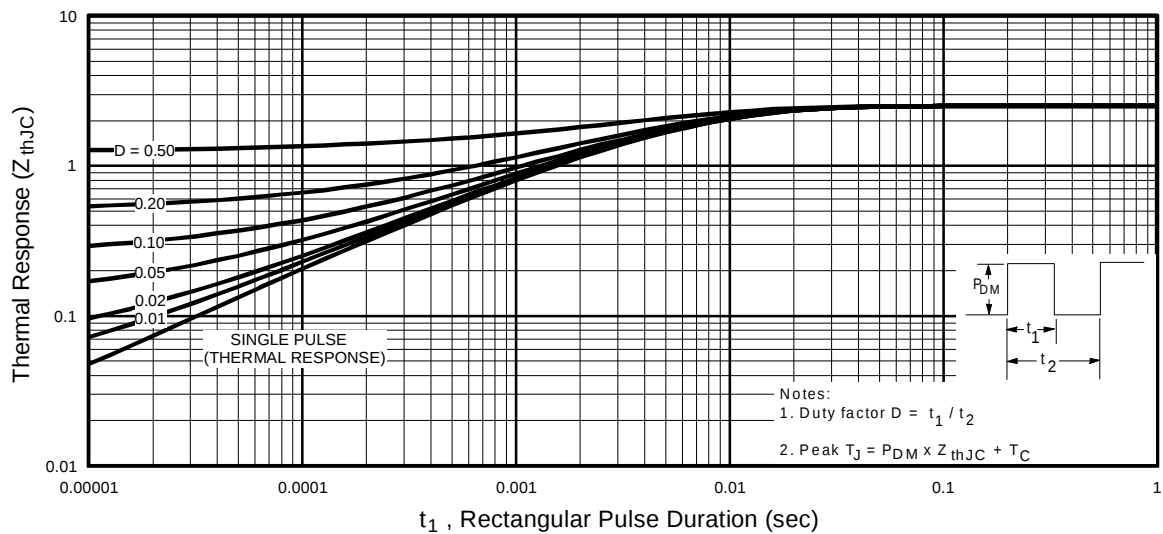

Fig 11. Maximum Effective Transient Thermal Impedance, Junction-to-Case
① Repetitive rating; pulse width limited by max. junction temperature. (See fig. 11)
③ $I_{SD} \leq 11A, di/dt \leq 110A/\mu s, V_{DD} \leq V_{(BR)DSS}, T_J \leq 150^\circ\text{C}$
② $V_{DD} = 25V$, starting $T_J = 25^\circ\text{C}, L = 830\mu H$